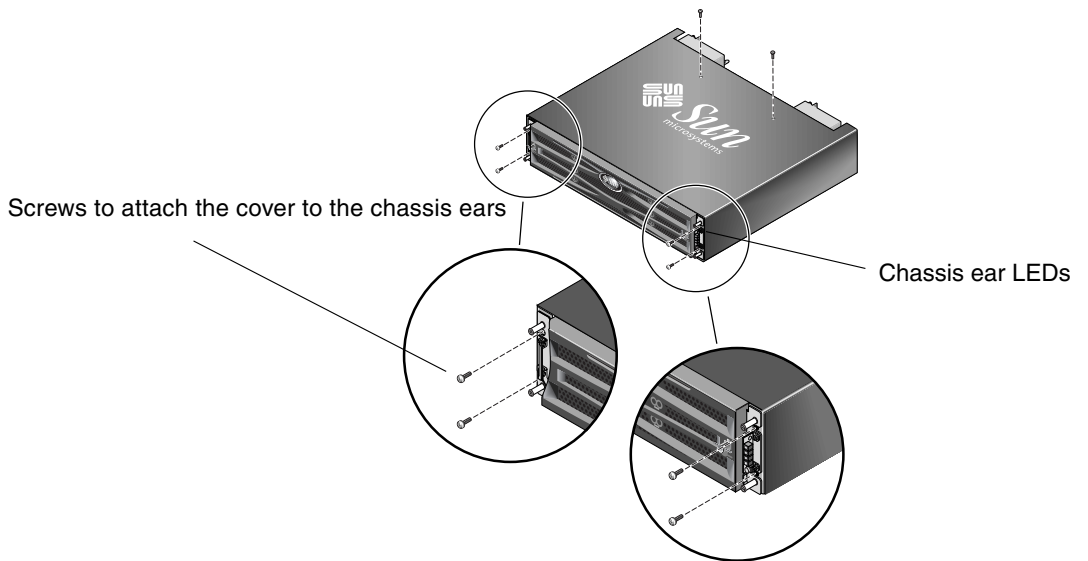

FIGURE 2-5 Attaching the Chassis Ears to the Tabletop Cover
6. Loosely attach the front of the tabletop cover to the front ears of the array with two 10-32 x 1/4-inch Phillips panhead screws on each side. See FIGURE 2-5.